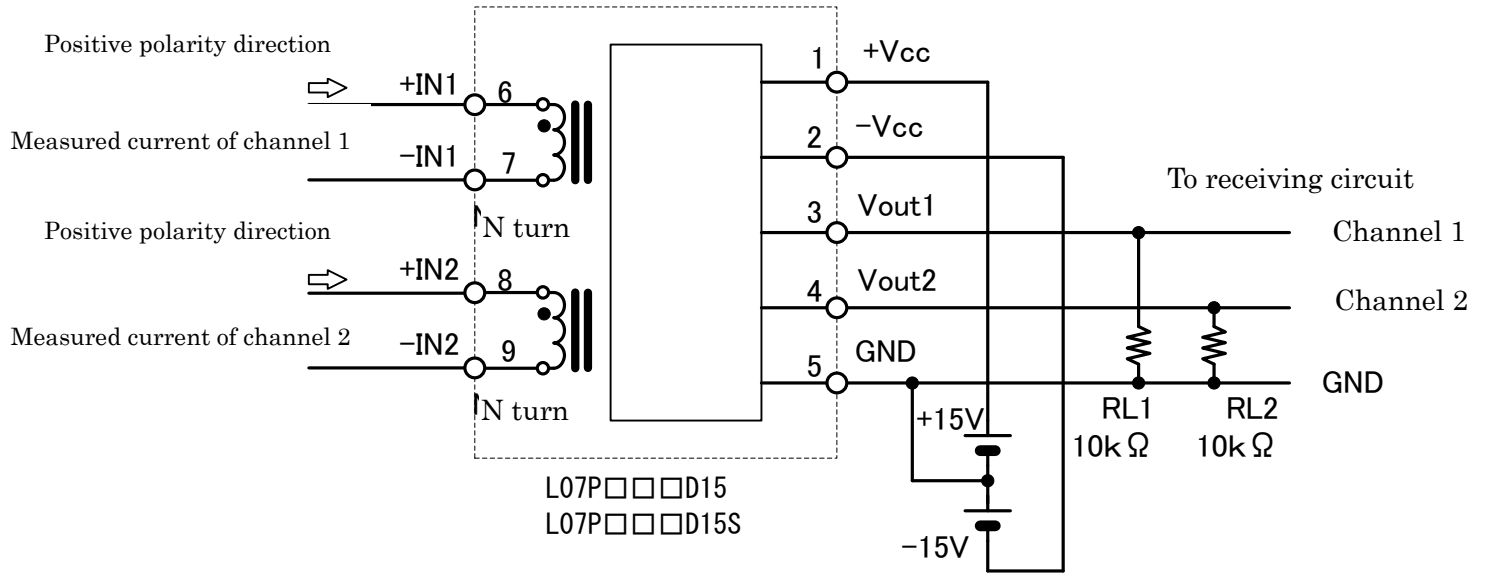

Fig. 3: L07P□□□D15 L07P□□□D15S Standard circuit
□Description of Fig. 3
This current sensor converts a measured current into a voltage. Two channels of sensors are contained in a single package. Each sensor operates independently. The output voltages Vout1 (3) and Vout2 (4) in Fig. 3 are output on the basis of the GND potential. When the current to be measured is 0, Vout (3) = 0V and Vout (4) = 0V. When current to be measured of channel 1 is in the plus direction ((6) ⇒ (7)), Vout 1 (3) has positive polarity. Similarly, Vout 2 (4) has positive polarity when the current to be measured of channel 2 is in the plus direction ((8) ⇒ (9)).
RL1 = RL2 = 10 kΩ in Fig. 3 is the equivalent resistance of the receiving circuit of the current sensor outputs Vout1 (3) and Vout2 (4). The standard value of resistance RL is 10 kΩ.